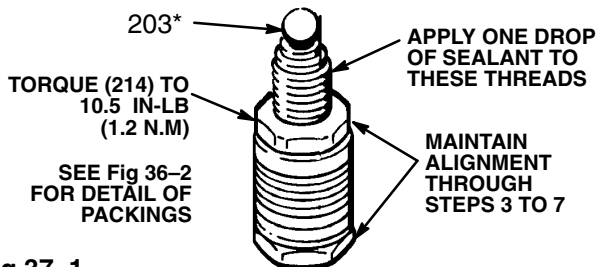

Fig 37–1
1. Check the outside of the piston rod (223) and the inside of the cylinder (216) for scoring or scratches. If the parts are damaged, new packings will not seal properly. Replace these parts if needed.
2. Stack the backup washer (219\*), u-cup seal (205\* – lips down), female gland (220\*), packings (217\* – lips up) and male gland (213\*) onto the piston valve (224). See Fig 37–1.
3. Tighten the packing retaining nut (214) onto the piston valve (224) and torque to 10.5 in–lb (1.2 N.m). Then unscrew the nut and retighten, finger tight only.
**Note the alignment** of the piston (D) to the nut (B) and maintain this alignment through Steps 3 to 7.
4. Apply *only 1 drop* of adhesive, supplied with the repair kit, to the threads of the piston valve. Place the small ball (203\*) on the piston valve (224). See Fig 37–1.
5. Hand tighten the valve assembly into the piston rod just until the nut (214) contacts the face of the rod. See Fig 37–1.